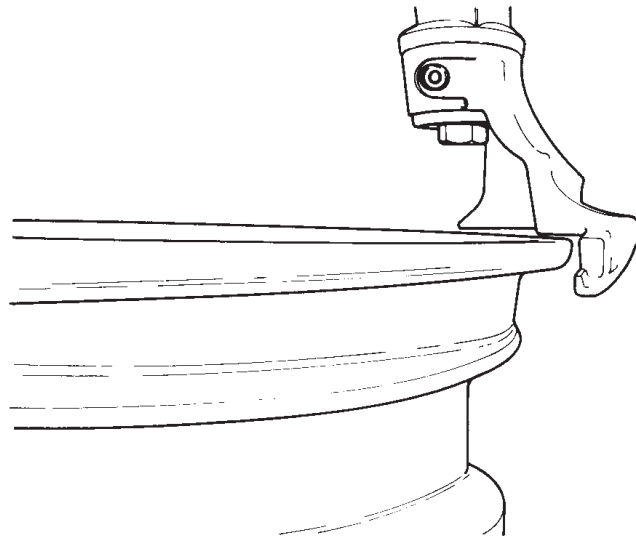

Fig.14
E. Gently position the mount/demount head in contact with rim edge, now manually push the lock button and lock it into place. The tool automatically moves vertically up and away from the rim edge. See Figure 14.